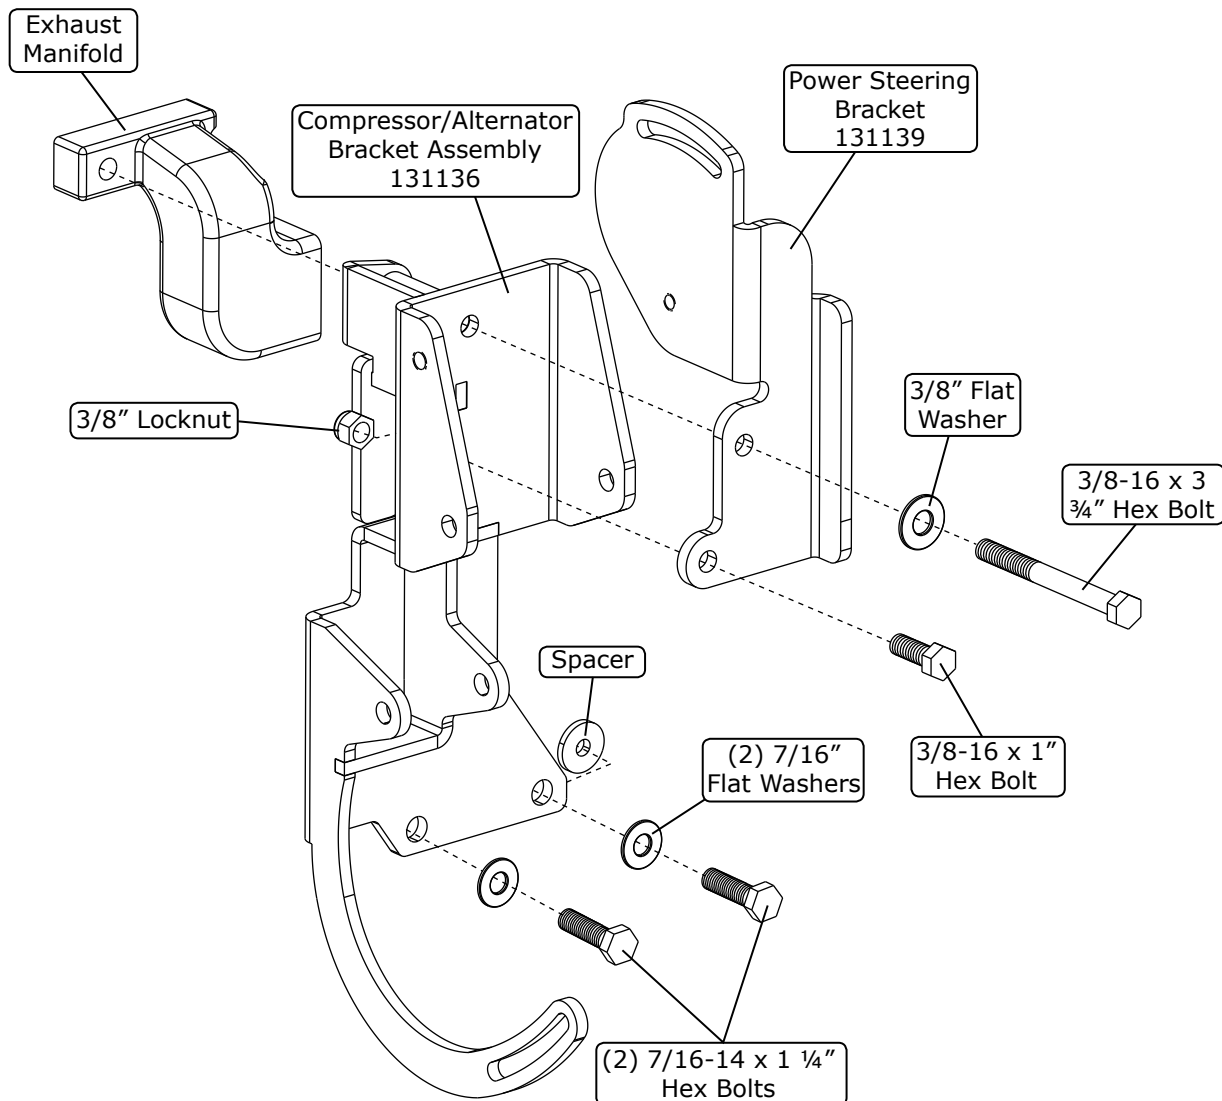

**Figure 1**
2. Insert a 3/8-16 x 3 1/2" hex bolt with a 3/8" flat washer through the top mounting hole of the compressor/alternator bracket assembly and into the exhaust manifold as shown in Figure 1, below. Torque to 23 lb ft.
3. Insert a 7/16-14 x 1 1/4" hex bolt with a 7/16" flat washer into the bottom front hole of the compressor/alternator bracket assembly, through the motor mount bracket, and into the engine boss (See Figure 1, below). Torque to 37 lb ft.
4. Locate the spacer supplied with the hardware kit. Insert a 7/16-14 x 1 1/4" hex bolt with a 7/16" flat washer into the bottom rear hole of the compressor/alternator bracket assembly, through the spacer, and into the engine boss (See Figure 1, below). Torque to 37 lb ft.